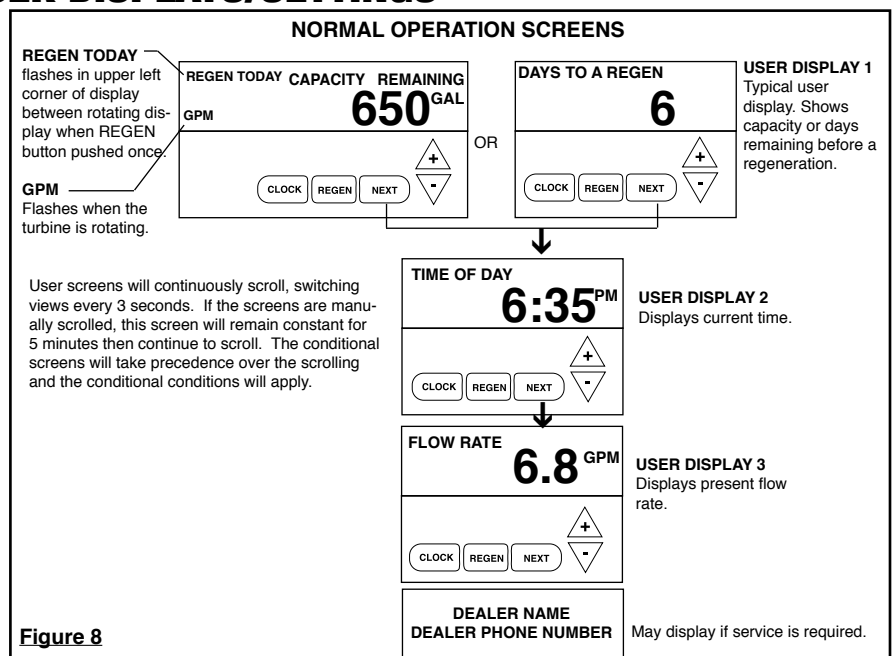

Figure 8
4. Now plug the transformer into a 110-volt receptacle. (Be certain the outlet is uninterrupted.) Within 5 seconds the control will automatically align itself into the softening mode and display will automatically alternate between time of day, gal/min and gallons remaining. (Figure 8, page 7).